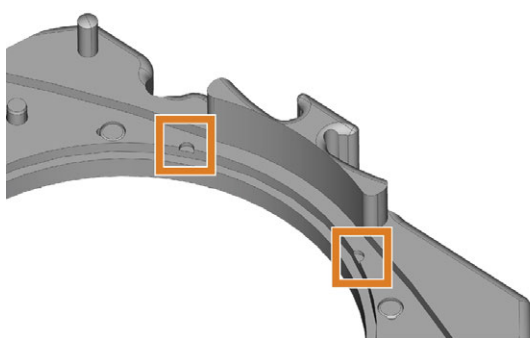

FIG. 34 RECESSES (MARKED ORANGE) TO BE ALIGNED WITH MARKINGS FOR SAFER REMOUNTING
- g. If the disc has been marked for remounting, rotate the disc until the marking is aligned with the corresponding recesses (marked orange) in the blank frame (↗ Fig. 34 see below).